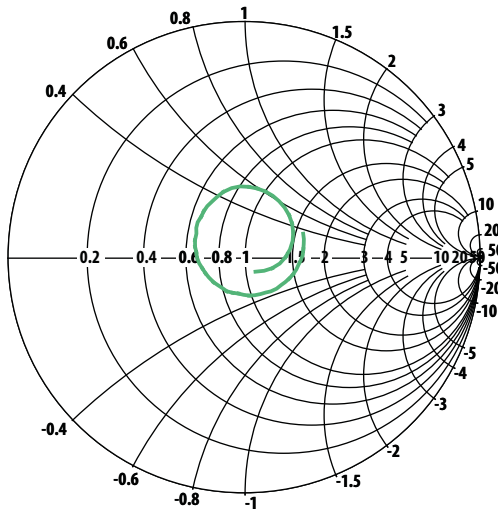

Figure 41. PCS Ant Port Impedance in Tx Band. (Dual Antenna, Note1).
1. Dimensions and detail follow same general schema as Figure 41.